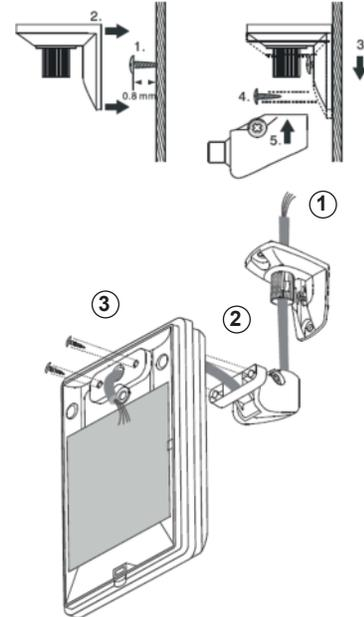

Figure 2
- Screw the base of the mounting bracket to the desired position on the wall as shown in Figure 2.